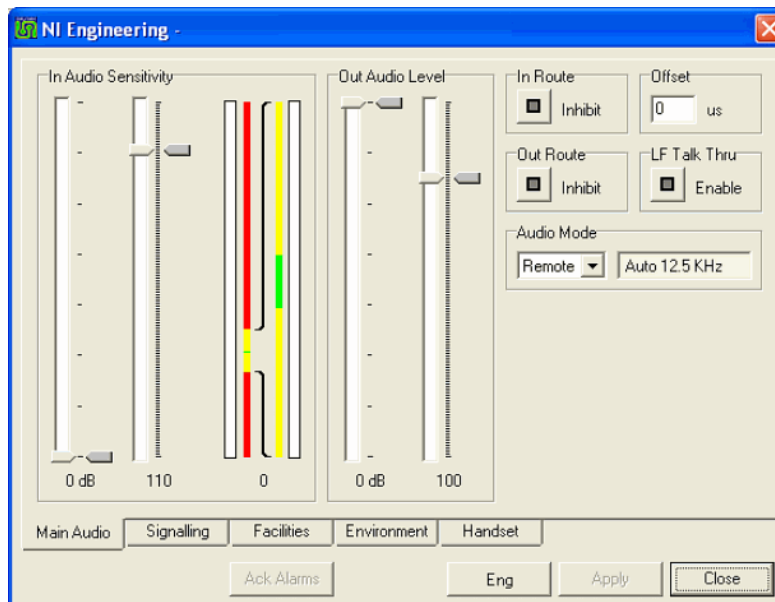

Figure 7. NI Engineering – Main Audio tab, 'In Audio Sensitivity' settings.
17. On the NI ET, on the Main Audio tab of the NI Engineering window, adjust the 'In Audio Sensitivity' controls for an indication of 10,000 with the blue bar close to the middle of the green section (see **Figure 7** overleaf). Approximate settings are: the coarse control to 0 dB and the fine control to around 112. (Expect small variations between receivers).